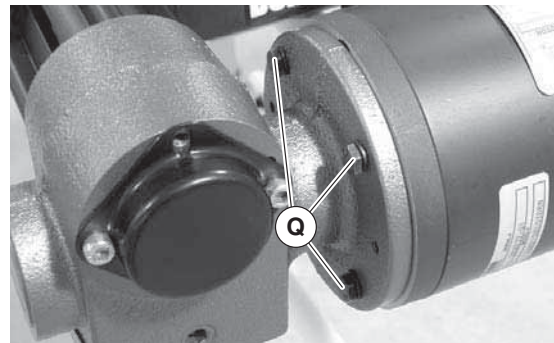

Figure 20
6. Install screws (Figure 20, item Q) and tighten to 65 in-lbs (7.3 N-m).